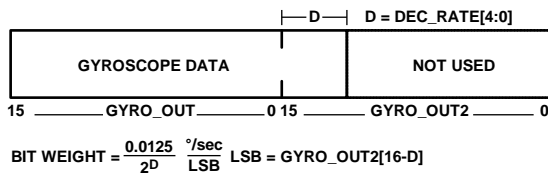
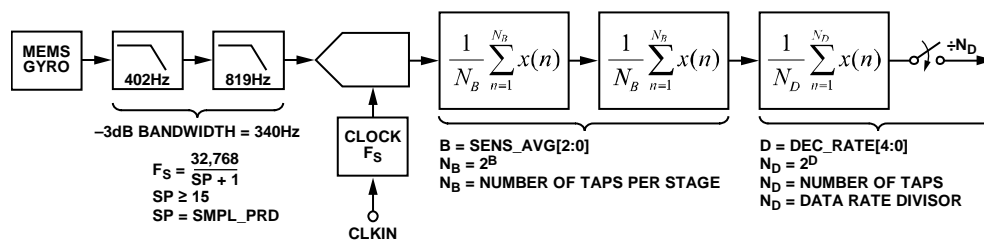

Figure 14. Gyroscope Output Format, DEC\_RATE[4:0] > 0
Figure 18. Sampling and Frequency Response Block Diagram
The GYRO\_OUT2 register (see Table 11) captures the bit growth associated with the decimation filter shown in Figure 18, using a MSB-justified format. The bit growth starts with the MSB (GYRO\_OUT2[15]), is equal to the decimation rate setting in DEC\_RATE[4:0] (see Table 18), and grows in the LSB direction as the decimation rate increases. See Figure 14 for more details.
Figure 18 provides a block diagram for the sampling and digital filter stages inside the ADIS16135. Table 15 provides a summary of registers for sample rate and filter control.
[15:0]	Clock setting bits; sets $F_s$ in Figure 18
The AVG\_CNT register (see Table 17) provides user controls for the low-pass filter. This filter contains two cascaded averaging filters that provide a Bartlett window FIR filter response (see Figure 18). For example, set AVG\_CNT[7:0] = 0x04 (DIN = 0xA004) to set each stage to 16 taps. When used with the default sample rate of 1024 SPS, this establishes a -3dB bandwidth of approximately 20 Hz for this filter.
[2:0]	Binary; B variable in Figure 18; maximum = 110 (6)
The DEC\_RATE register (see Table 18) provides user control for the final filter stage (see Figure 18), which averages and decimates the output data. For systems that value lower sample rates, this filter stage provides an opportunity to lower the sample rate while maintaining optimal bias stability performance. The -3 dB bandwidth of this filter stage is approximately one half the output data rate. For example, set DEC\_RATE[7:0] = 0x04 (DIN = 0xA204) to reduce the sample rate by a factor of 16. When the factory default 1024 SPS sample rate is used, this decimation setting reduces the output data rate to 64 SPS and the sensor bandwidth to approximately 31 Hz.
[4:0]	Binary; D variable in Figure 18; maximum = 1000 (16)